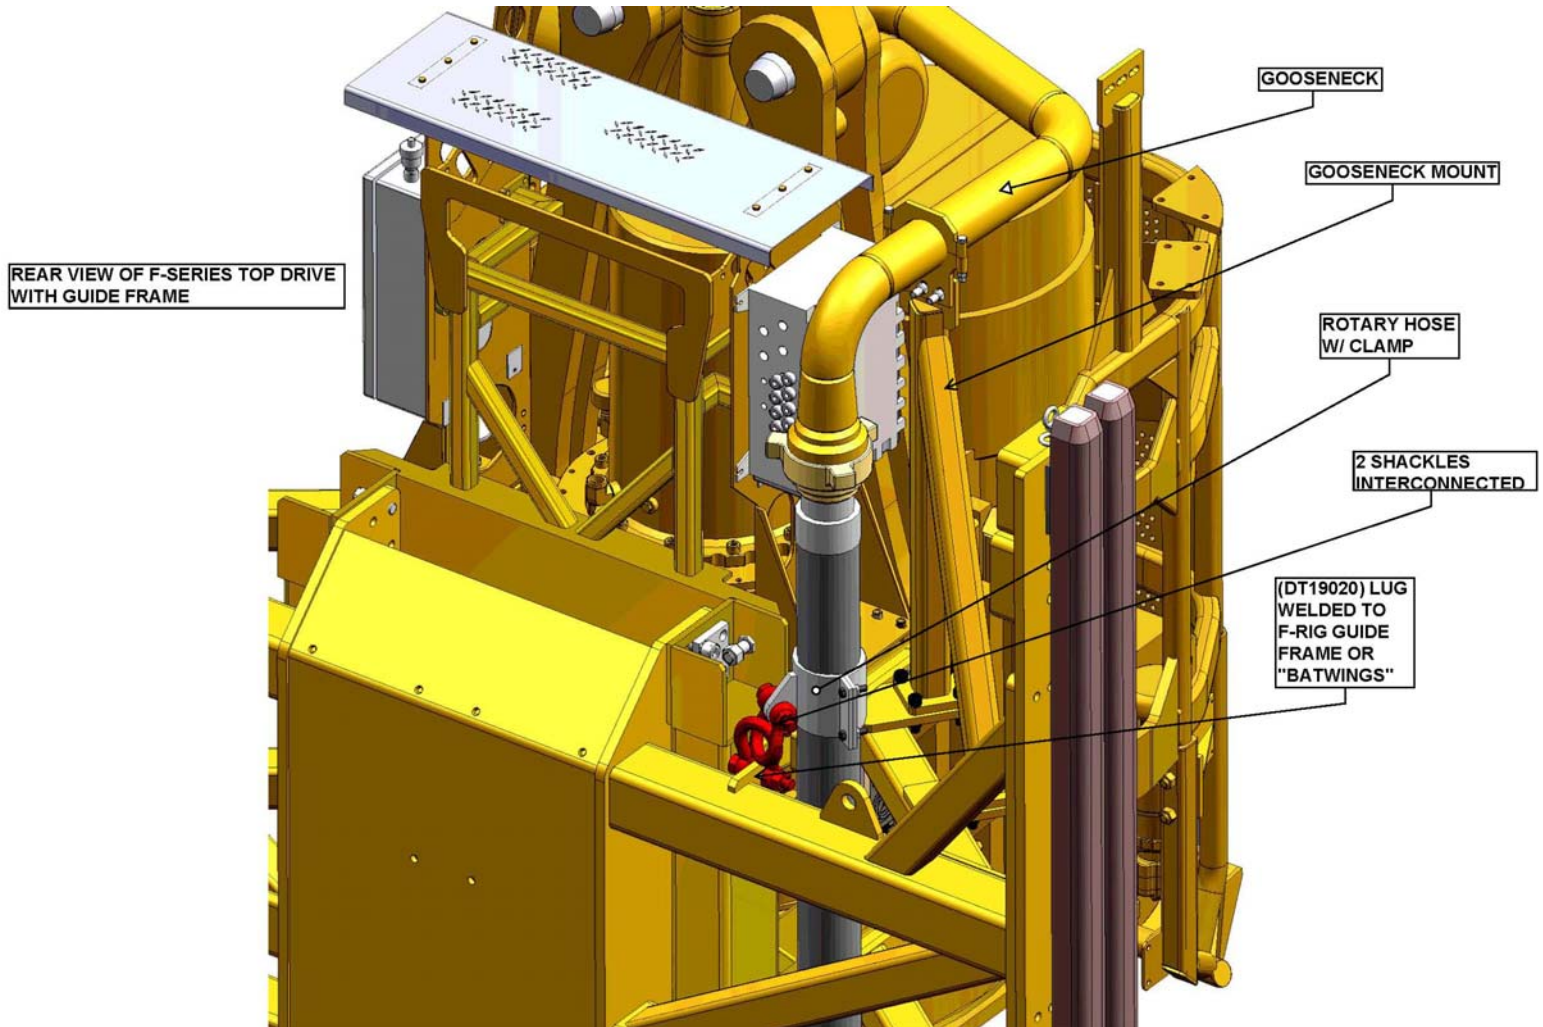

Fig. 2
3. Interconnect (2) shackles (supplied by customer) between Rotary Hose Clamp and the lug (DT19020) welded to the F-rig Guide Frame as shown in Fig. 2.